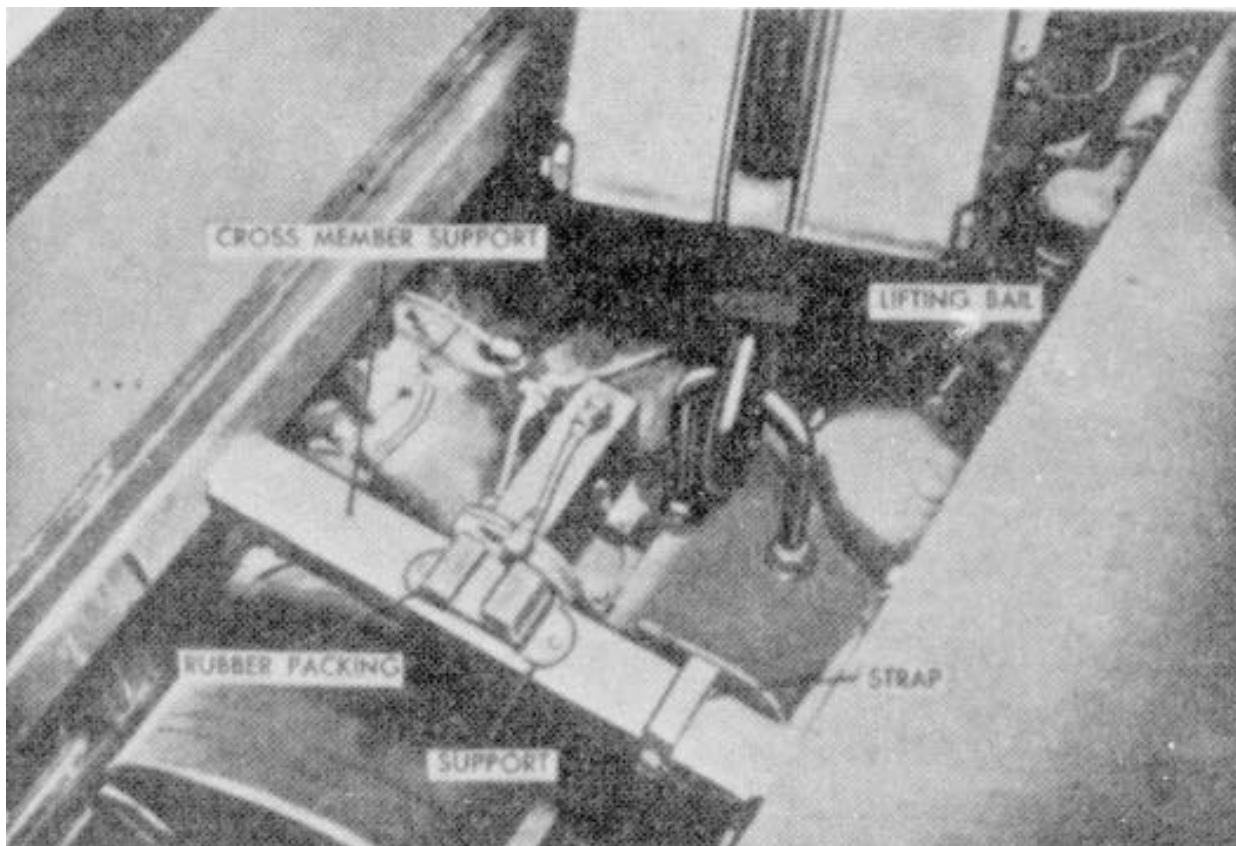

Figure 95. Lifting the engine-compressor.
a. *Removal from Truck.* Remove the hood top door (6, fig. 61). Remove the nuts, vibration dampeners, and washers that fasten the engine-compressor to the mounting springs on the truck frame. Refer to paragraph 231. Insert a lifting hook in the lifting bail (fig. 95) and lift the engine-compressor from the truck frame. Remove the housing (par. 128) before proceeding with engine-compressor disassembly.
- (3) Pull out the dipstick (1), remove the O-ring (22), and screw out the pipe extension (21). Unscrew the 30 cap screws (11) and lockwashers (10). Carefully drop the lower oil pan (9) and disconnect the oil line to the filter cases. Remove the pipe plug (13) and oil filter seal (17). Carefully remove the end gaskets (18) and the side gaskets (8).
- (4) Insert a lifting hook in the lifting bail (fig. 95) and tighten the hoist cables to support the engine-compressor during the time the upper oil pan is removed. Unscrew the 20 cap screws (7) and lockwashers (6). Carefully lower the upper oil pan (4) and remove it from the engine-compressor. Use care, in removing the two oil pan gaskets (3). Lift out the rear oil seal (2) and the front oil seal (5). It is not necessary to remove the special nuts (20), or the gasket (19).
b. Inspection and Cleaning. Inspect both oil pans for breaks, or cracks. Replace a damaged oil pan. Replace all gaskets. Refer to paragraph 42i (2) for the oil filter maintenance. Inspect the front and rear oil seals. Replace